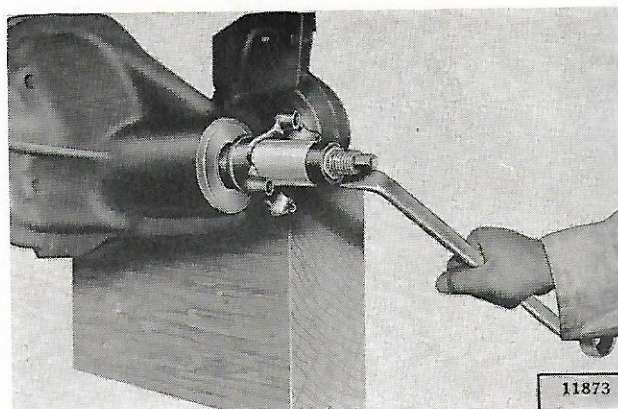

FIG. 11-22—YOKE INSTALLING TOOL
- p. Install the yoke with Yoke Installer, as shown in Fig. 11-22.